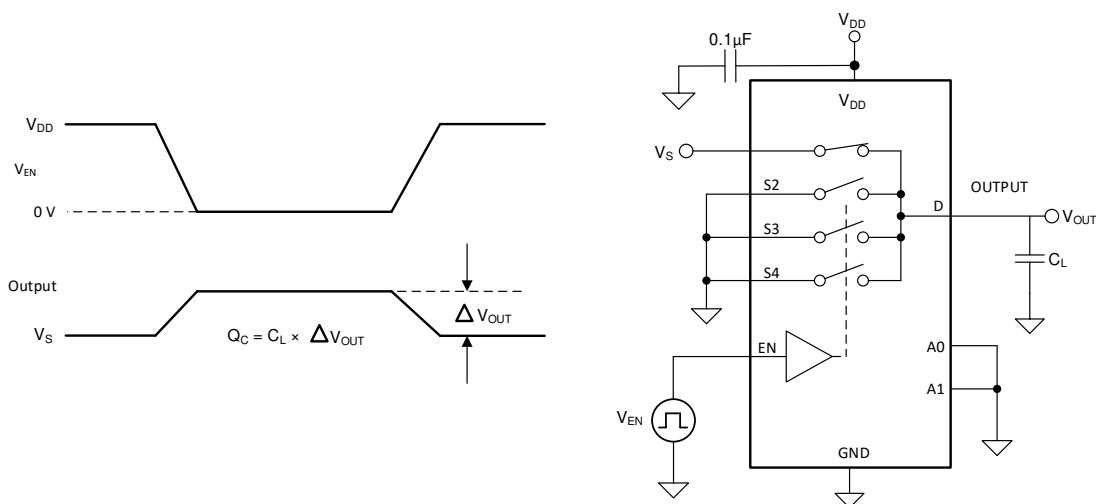

图 6-7. Charge-Injection Measurement Setup
The TMUX1104 has a transmission-gate topology. Any mismatch in capacitance between the NMOS and PMOS transistors results in a charge injected into the drain or source during the falling or rising edge of the gate signal. The amount of charge injected into the source or drain of the device is known as charge injection, and is denoted by the symbol Q_C . 图 6-7 shows the setup used to measure charge injection from source (S_x) to drain (D).